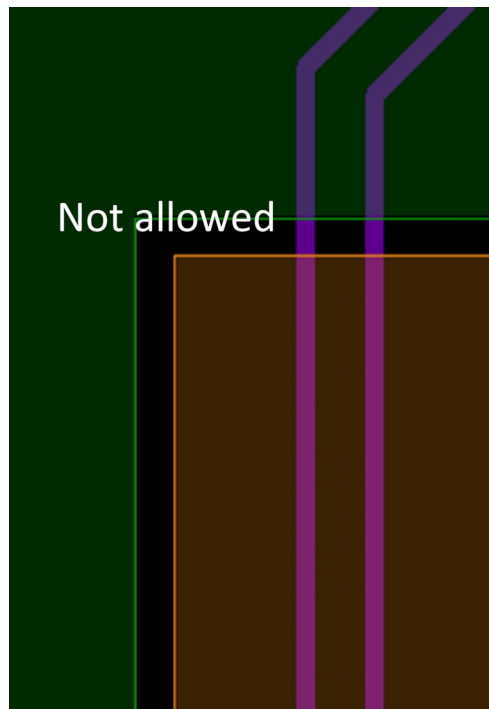

Figure 4-7: **Signal Routing Over Reference Plane Split**
3. Avoid routing over reference plane splits, see Figure 4-7.